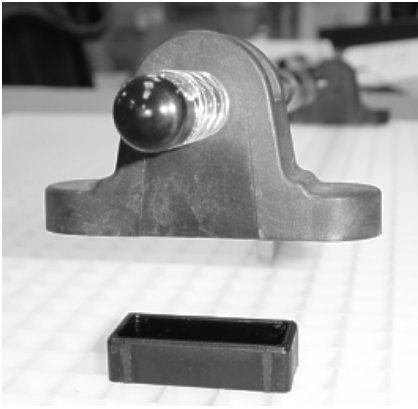

figure 1
1. Position the slide bar onto the Morton Surface using the grid adapters as shown. *see figure 1*